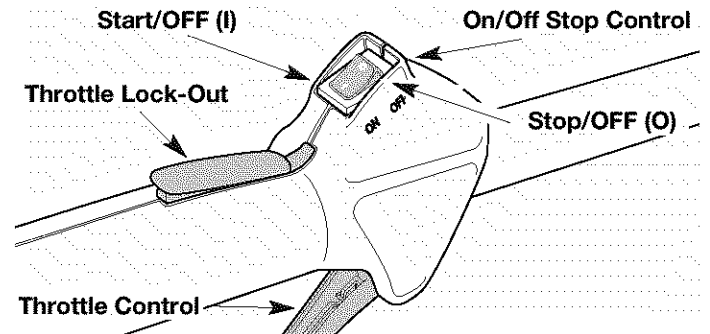

Fig. 15
2. To stop the engine move On/Off Stop Control to **OFF** (Fig. 15).